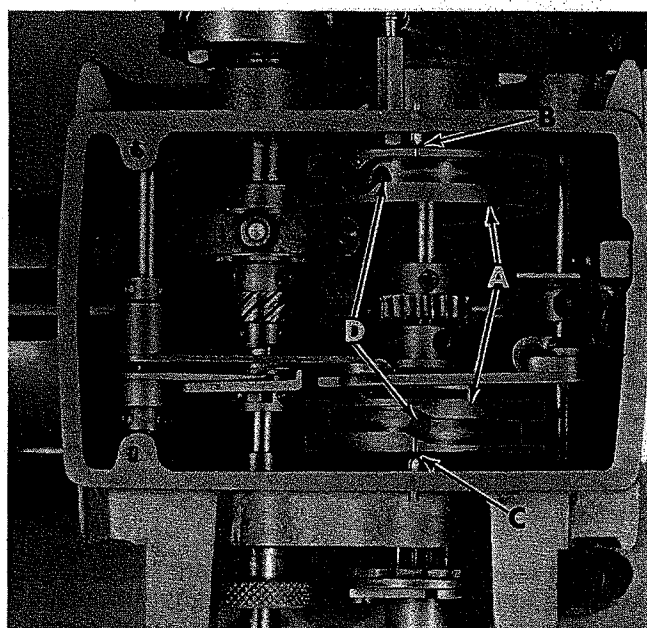

Fig. 21
The clamp drive cams (A, Fig. 21) are set properly when the white timing marks on both cams align with the timing pins in the bed at points (B) and (C).
Engage the machine into RUN POSITION by pressing down firmly on the rear of the stop motion plunger assembly and rotate the pulley three complete revolutions in operating direction. The second set of screws for the cams should now be accessible. Loosen both set screws then rotate the pulley in the reverse direction until the machine again rests in STOP POSITION. Loosen the remaining set screws for both cams (D, Fig. 21), and align the timing marks on the cams to the timing pins in the machine bed. Tighten both screws (D). Again engage the machine into RUN POSITION and rotate the pulley three revolutions until the second set of screws are accessible. Tighten these screws and return the machine to STOP POSITION by rotating the pulley in the reverse direction.